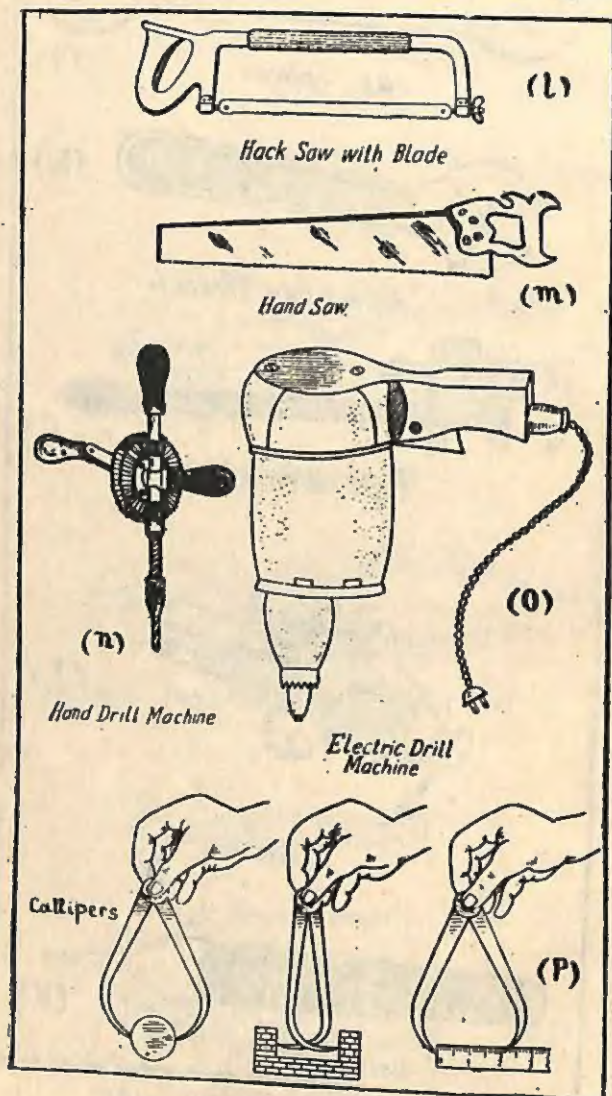

Fig. 16.1. (Continued)
(4) **Hammers.** Hammers are used for fixing nails, for flat-tenning metals and for straightening articles etc. Hammers consist of a wooden or metallic handle fitted in a suitable metal block. The two common types of hammers are (a) *Ball Peen hammer* and (b) *Claw Hammers* as shown in Fig. 16.1 (e) and (f) respectively. The *Claw Hammers* can also be used to remove the nails from the places where it is fixed.
(5) **Spanner and Wrench.** Spanners are used for tightening or loosening nuts and bolts. These are made of cast steel and have fixed jaws as shown in Fig. 16.1 (g).